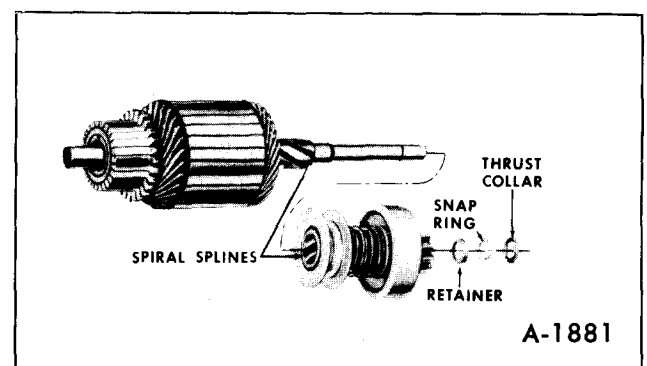

Figure 68—Starter Clutch
a. Remove thrust collar from armature shaft. (figure 68)
b. Slide clutch assembly onto armature shaft with pinion away from armature. (figure 68)